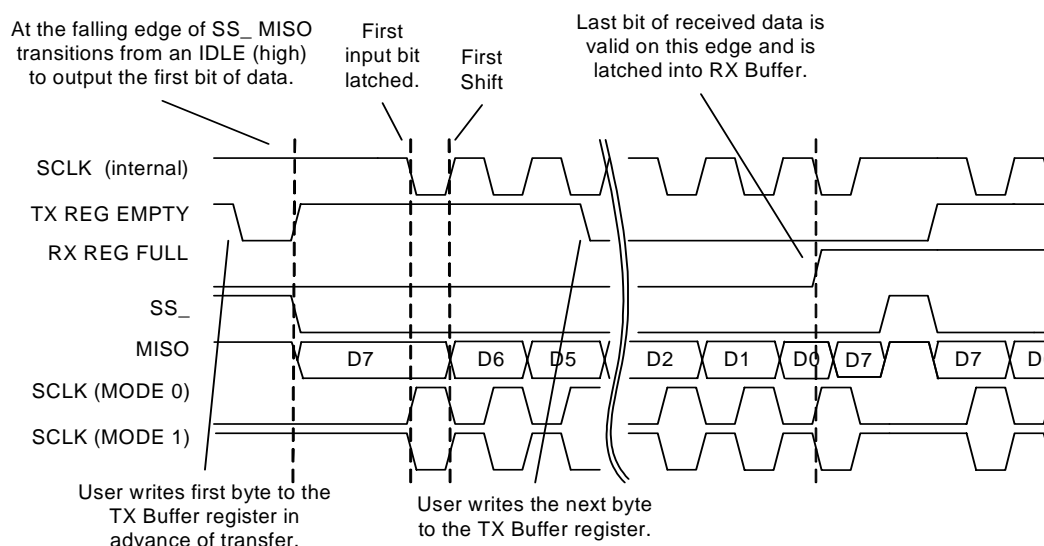
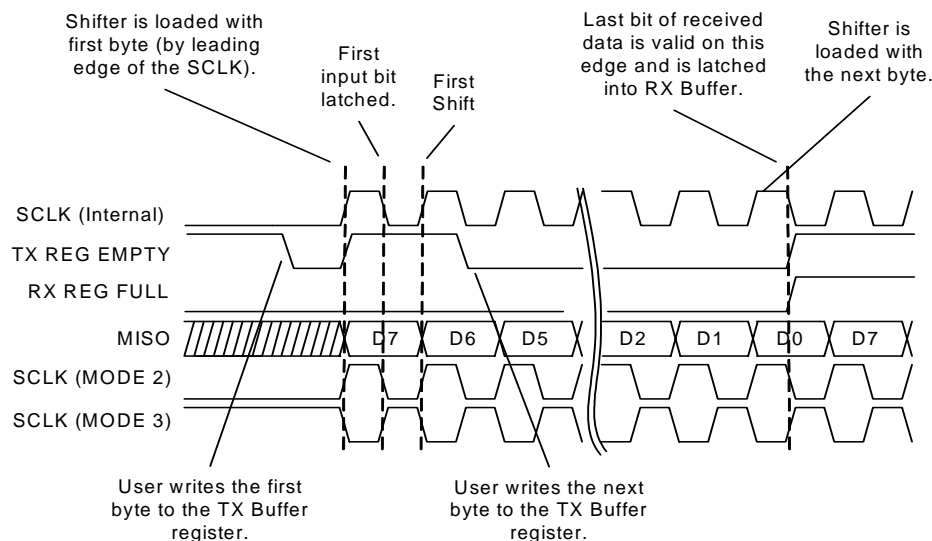

Figure 17-19. Typical SPIS Timing in Modes 0 and 1
Figure 17-20. Typical SPI Timing in Modes 2 and 3
**Normal Operation.** Typical timing for a SPIS transfer is shown in Figure 17-19 and Figure 17-20. If the SPIS is primarily being used as a receiver, the RX Reg Full (polling only) or SPI Complete (polling or interrupt) status may be used to determine when a byte has been received. In this way, the SPIS operates identically with the SPIM. However, there are two main areas in which the SPIS operates differently: 1) SPIS behavior related to the SS\_ signal, and 2) TX data queuing (loading the TX Buffer register). These operating behaviors are explained in the following sections (16.7.6.3 and 16.7.6.5).